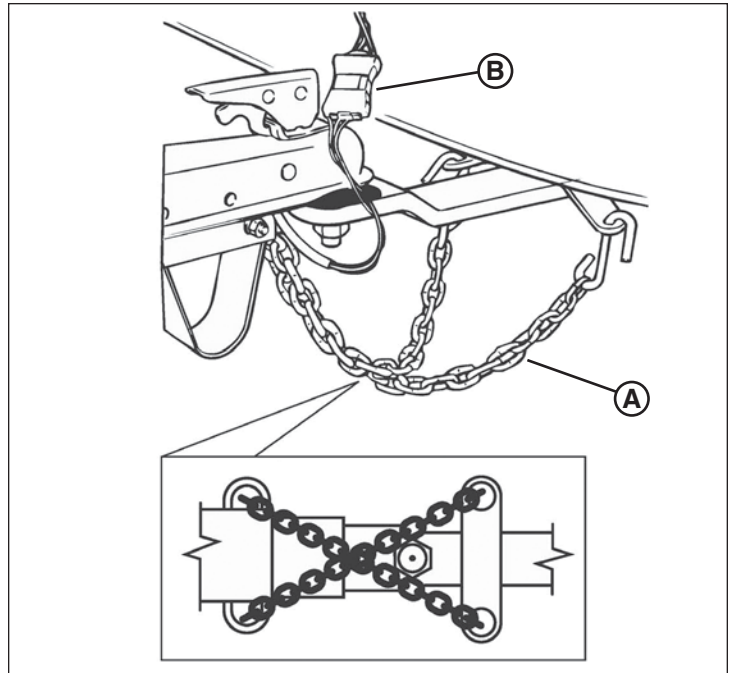

Figure 7
2. Connect the safety chains (A, Figure 7) to the vehicle's hitch frame and crisscross the chains under the trailer tongue to prevent the tongue from dropping to the road if the trailer separates from the hitch. Rig the chains as tight as possible with enough slack to permit free turning.
3. Connect the light connector (B, Figure 7) from the vehicle harness to the trailer harness.